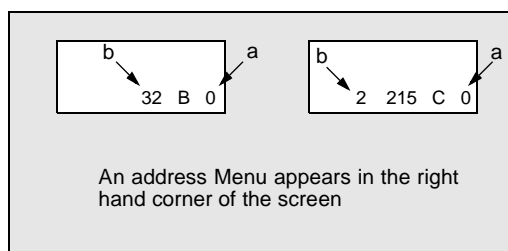

Figure 13. **Serviceman Mode Menu Adjustments.**
Note: *Only the applicable settings for the Receiver serviced will be available (See **a** in Fig. 13).*
1. Press **Channel Up/Down** on the **Remote Control** to select one of the available Service Adjustments (a in Fig. 13).
Note: Write Down the original value set (b in Fig. 13) for each address before modifying anything. It is easy to erroneously adjust the wrong item.
2. Press **Volume Up/Down** on the **Remote Control** to adjust the level of the selected Service Adjustment (b in Fig. 13).
1. Press **Channel Up/Down** on the **Remote Control** to select one of the available Service Adjustments (**a** in Fig. 13).
Note: Write Down the original value set (**b** in Fig. 13) for each address before modifying anything. It is easy to erroneously adjust the wrong item.
2. Press **Volume Up/Down** on the **Remote Control** to adjust the level of the selected Service Adjustment (**b** in Fig. 13).
1. Press Channel Up/Down on the Remote Control to select one of the available Service Adjustments (a in Fig. 13).
2. Press Volume Up/Down on the Remote Control to adjust the level of the selected Service Adjustment (b in Fig. 13).
- Note:** Write Down the original value set (b in Fig. 13) for each address before modifying anything. It is easy to erroneously adjust the wrong item.